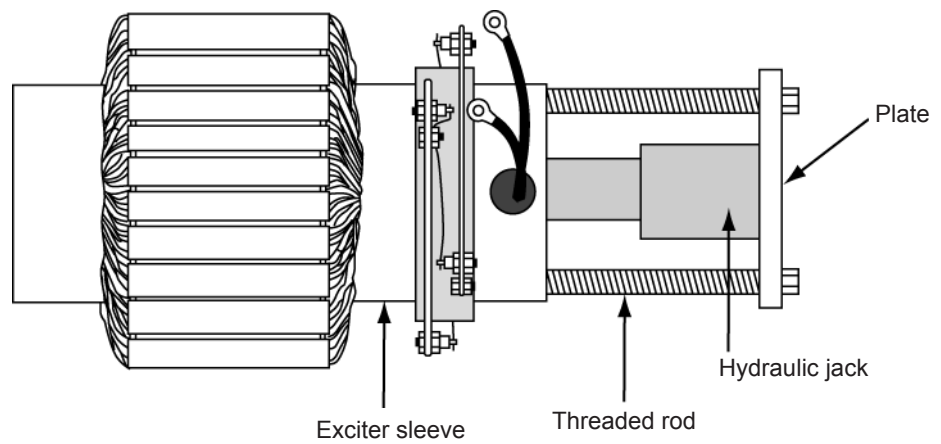

Figure 25: Pulling the armature assembly
5. Slowly pull the armature assembly off of the generator shaft. If the exciter can not be pulled off by hand, use a hydraulic jack as shown in Figure 25.